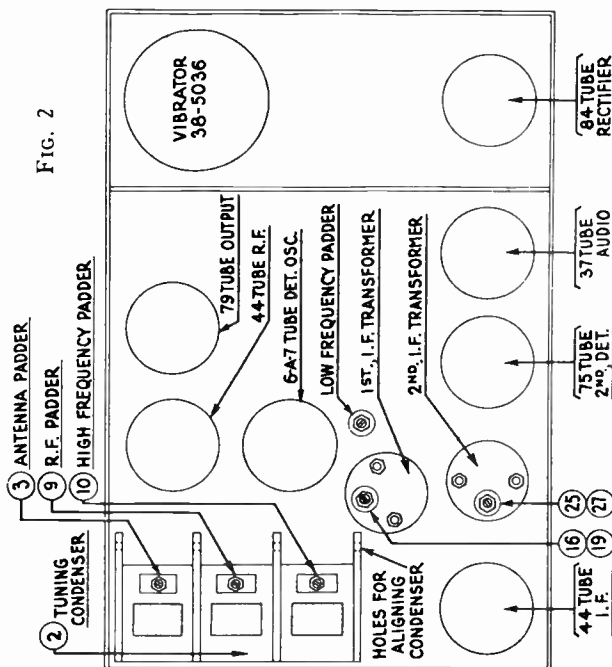

FIG. 2
Remove the speaker lid from the Receiver and disconnect the antenna lead from the Receiver. Remove the grid cap from the 6A7 tube (for location see Fig. 2).
Set up the signal generator and adjust it to exactly 260 K. C. Connect the generator lead to the grid cap of the 6A7 tube, grounding the shield. (See Fig. 2.) The output meter must be connected by means of an adapter to the small prong of the speaker plug and to the chassis.
The padders ③ and ⑨ are adjusted first (Figs. 2 and 3). Turn the adjusting screw ② all the way in. A metal screw driver can be used for this. Then, with generator attenuator set so there is approximately half-scale reading, adjust the nut ④ with a fibre wrench for the maximum reading on the output meter.
There are four holes in line, one in each of the sections of the tuning condenser housing. (See Fig. 2.) Place a nail of the size that fits snugly through the holes and then turn the condenser plates out of mesh until they strike against the nail.